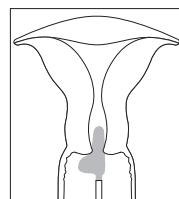

Fig. 1
3. Holding the FLOQSwabs® from the shaft, insert the swab tip (the long section of the L) inside the cervical canal, leaving outside the wider part of the swab (the short section of the L). See Fig. 1